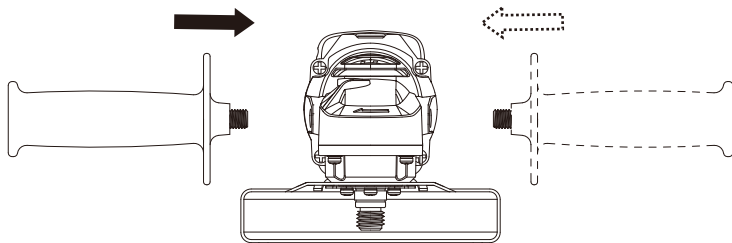

Figure 1
1. INSTALLING AND ADJUSTING AUXILIARY HANDLE (SEE FIG. 1)